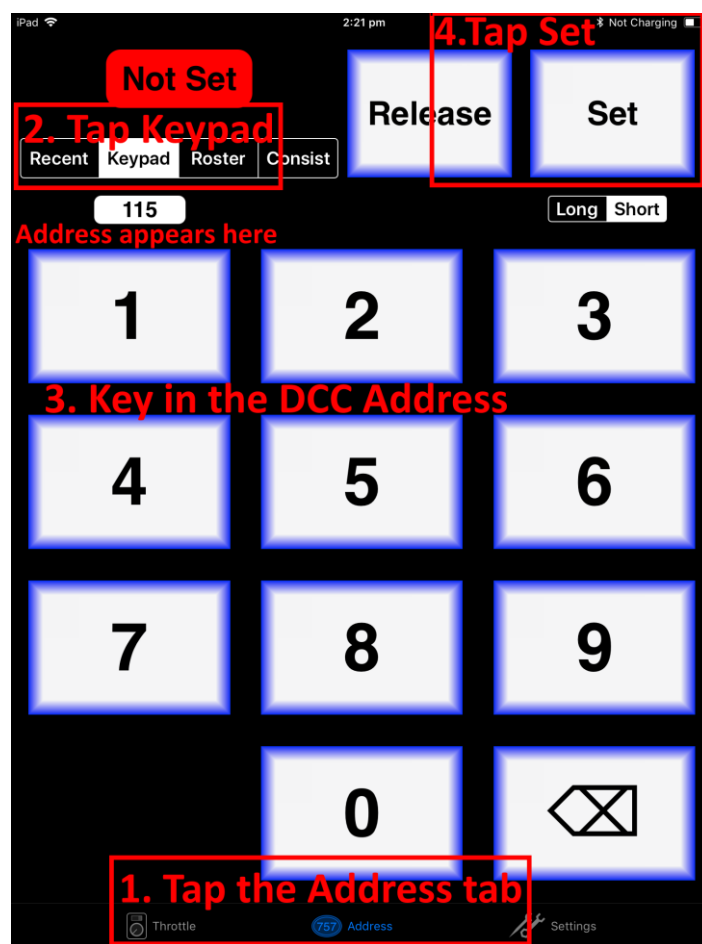

Figure 8 The Address tab of WiThrottle. Select a loco to drive
(10) Now tap the "Address" tab at the bottom (it might go there automatically), tap Keypad and key in the DCC address of the decoder installed in the locomotive with the WDMI-27 (if it is a brand new decoder it will be 3) then tap the Set button as Figure 8.